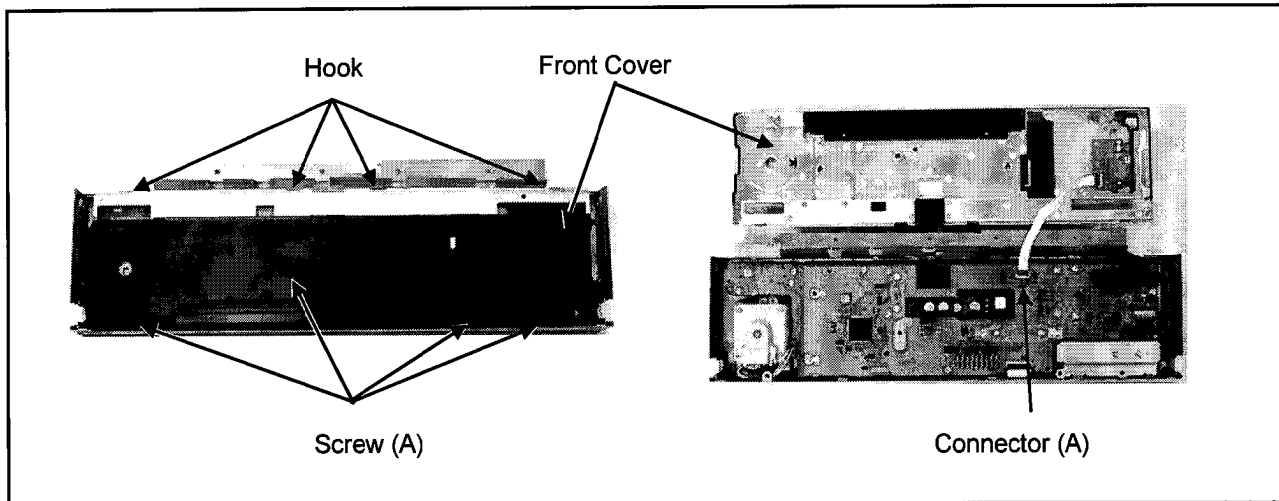

Figure 5-1
3. Unscrew the 4 screws (A) and remove the 4 hook as shown in figure 5-1.
4. Disconnect a connector (A) as shown in figure 5-1 and remove the Front Cover.